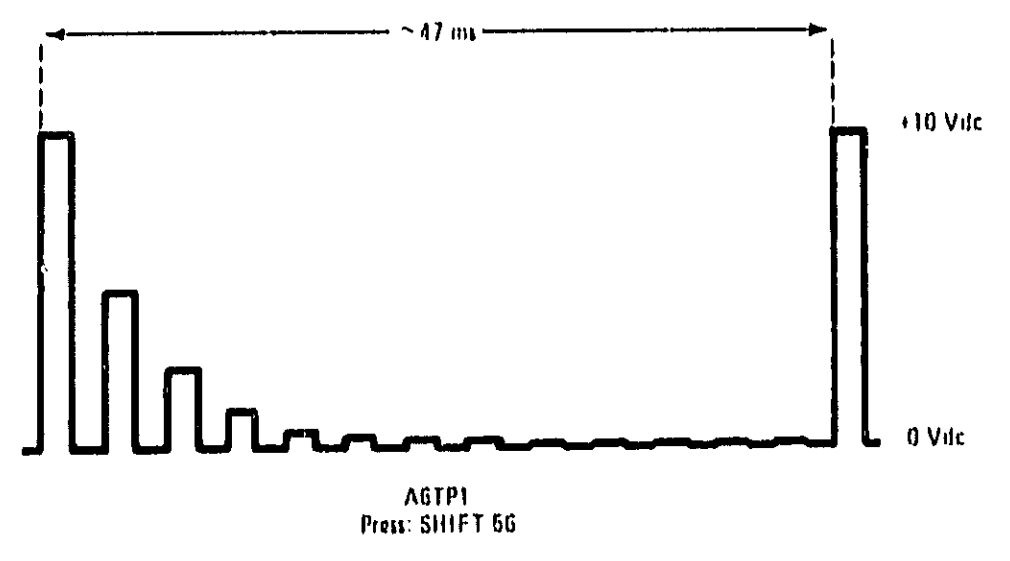
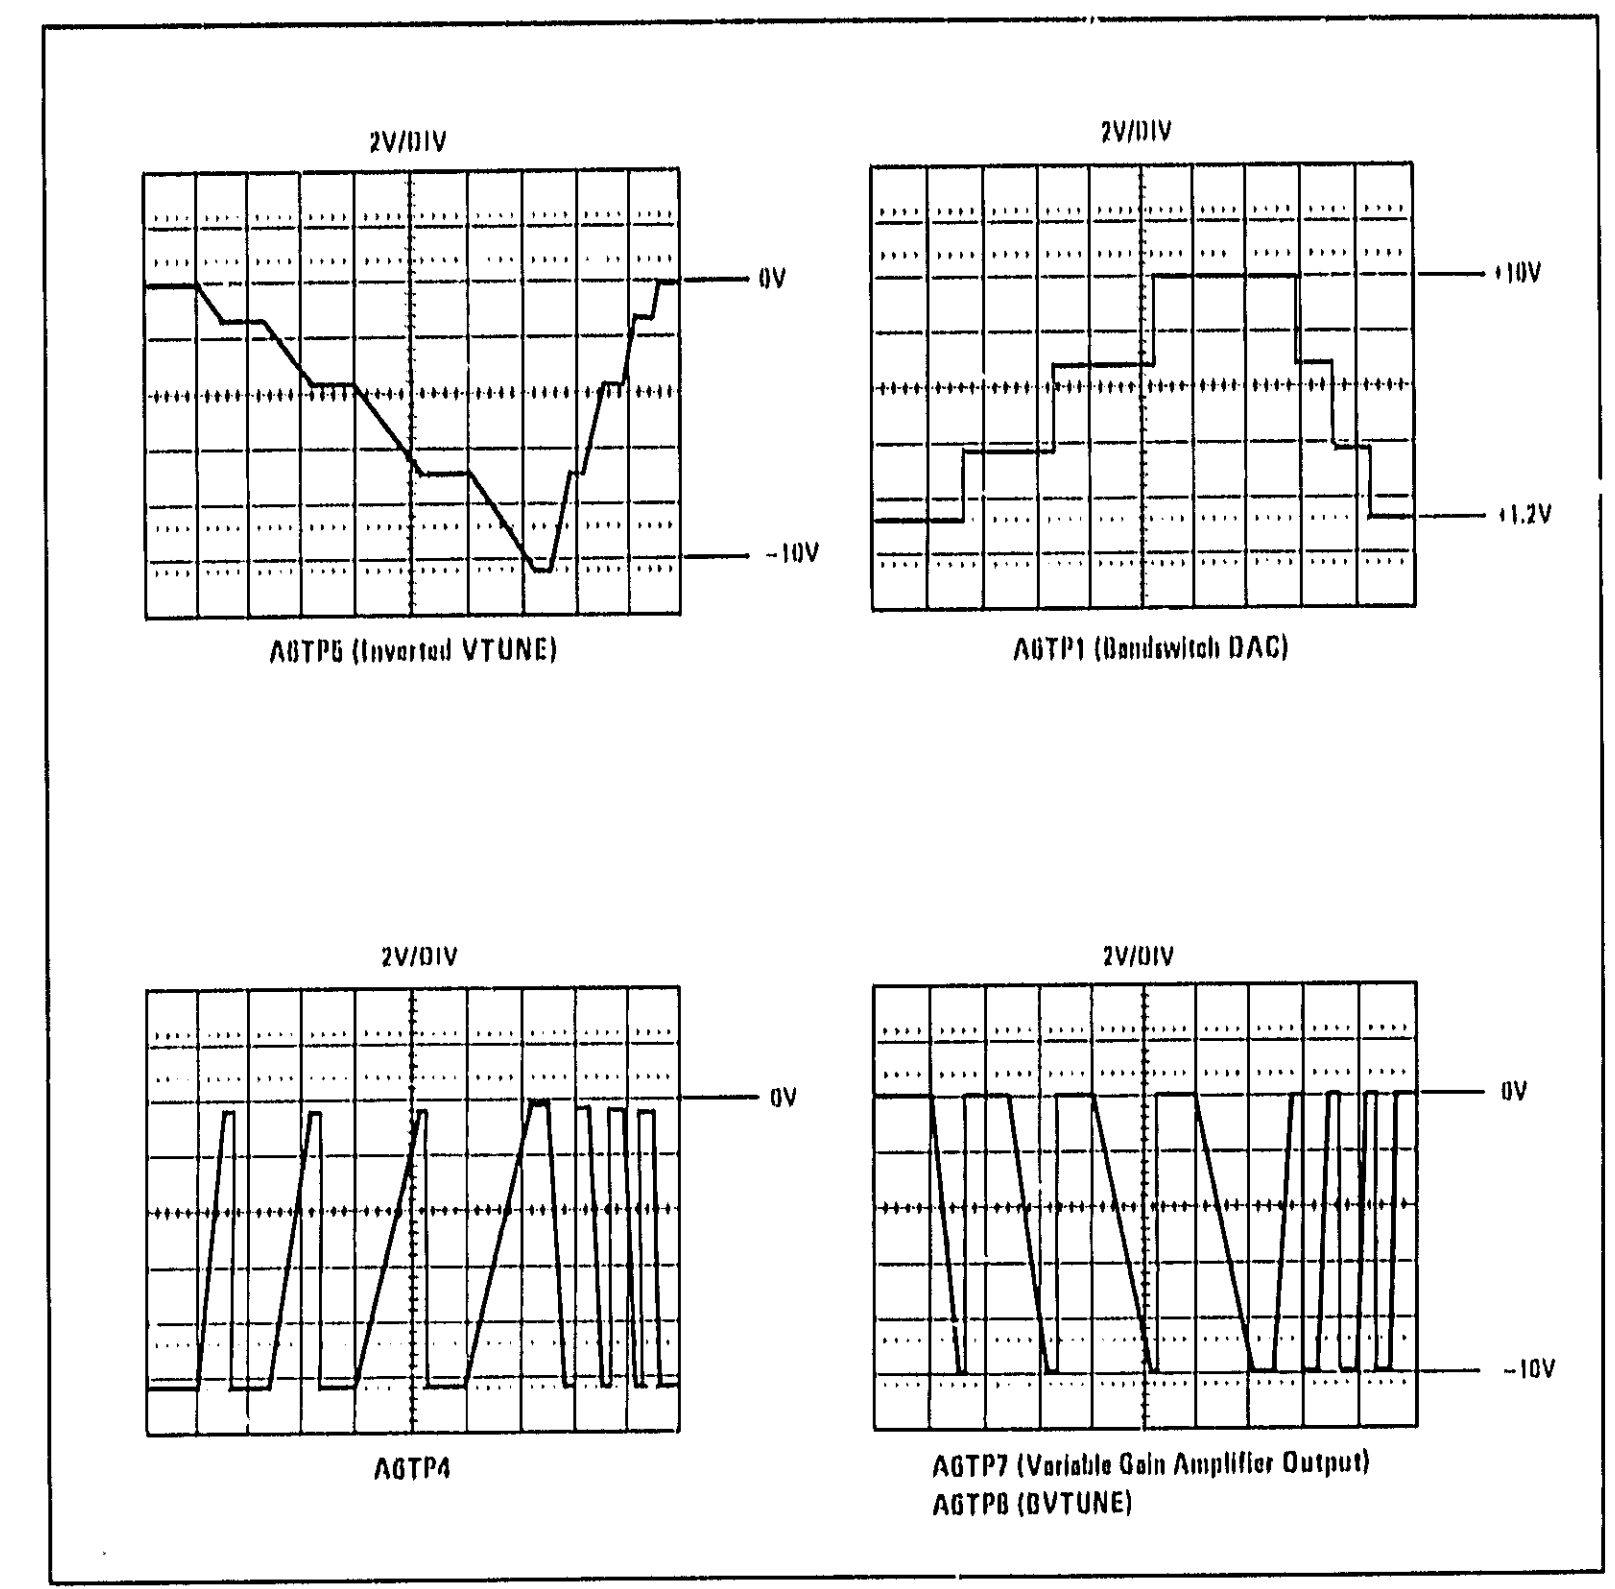

Figure 8-46 Bandswitch DAC Test Waveform
Figure 8-47 Buffered Tuning Voltage Waveforms
A failure with the BVTUNE signal may cause both the YO and YTM to sweep between improper frequency endpoints, or not sweep at all. For a full band SWEEP (2.0 to 20 GHz), the BVTUNE output at TP8 should be a series of 0 to -10V ramps (See Figure 8-47). For a single band sweep (e.g. 2.0 to 7.0 GHz), BVTUNE should be a single 0 to -10V ramp.
- a. Check the Bandswitch DAC output at TP1 as shown in Figure 8-47. If this signal is incorrect, run the Bandswitch DAC test by entering SHIFT 5 6. Then check TP1 for the waveform shown in Figure 8-46.
- b. Verify correct operation of the Variable Gain Amplifier by checking waveforms at TP4 and TP7 according to Figure 8-47. If any of the voltage levels are slightly out of tolerance, perform the Sweep Control and Band Overlap adjustments in Section V. If the voltage at TP4 is 0V, verify that analog switch U10D is open.
- a. If the FWD SWP BSW signal is not correct, check the Bandswitch DAC output at TP1 and the TV Buffer output at TP5 as shown in Figure 8-47.